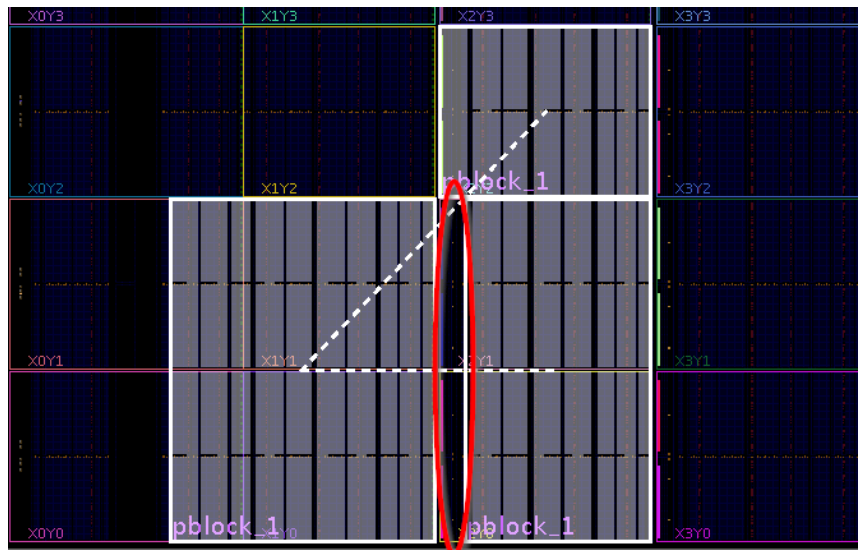

Figure 6-11: Gap in the IOB Column Not Supported
- Gaps in the IOB/XIPHY ranges, such as the gap in the IOB column shown in Figure 6-11 below.